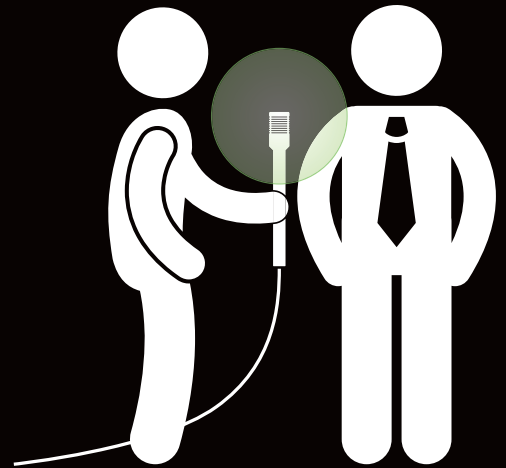

Fig. 1 - Microphone placement
- 6 Please note: The microphone does not need to be moved back and forth during the interview (omni pattern). Just hold the microphone still around chest height (Fig.1). This way, you have no microphone in the face area without loss in sound quality. Speaking into the microphone from a closer distance might be necessary in very loud and noisy environments.